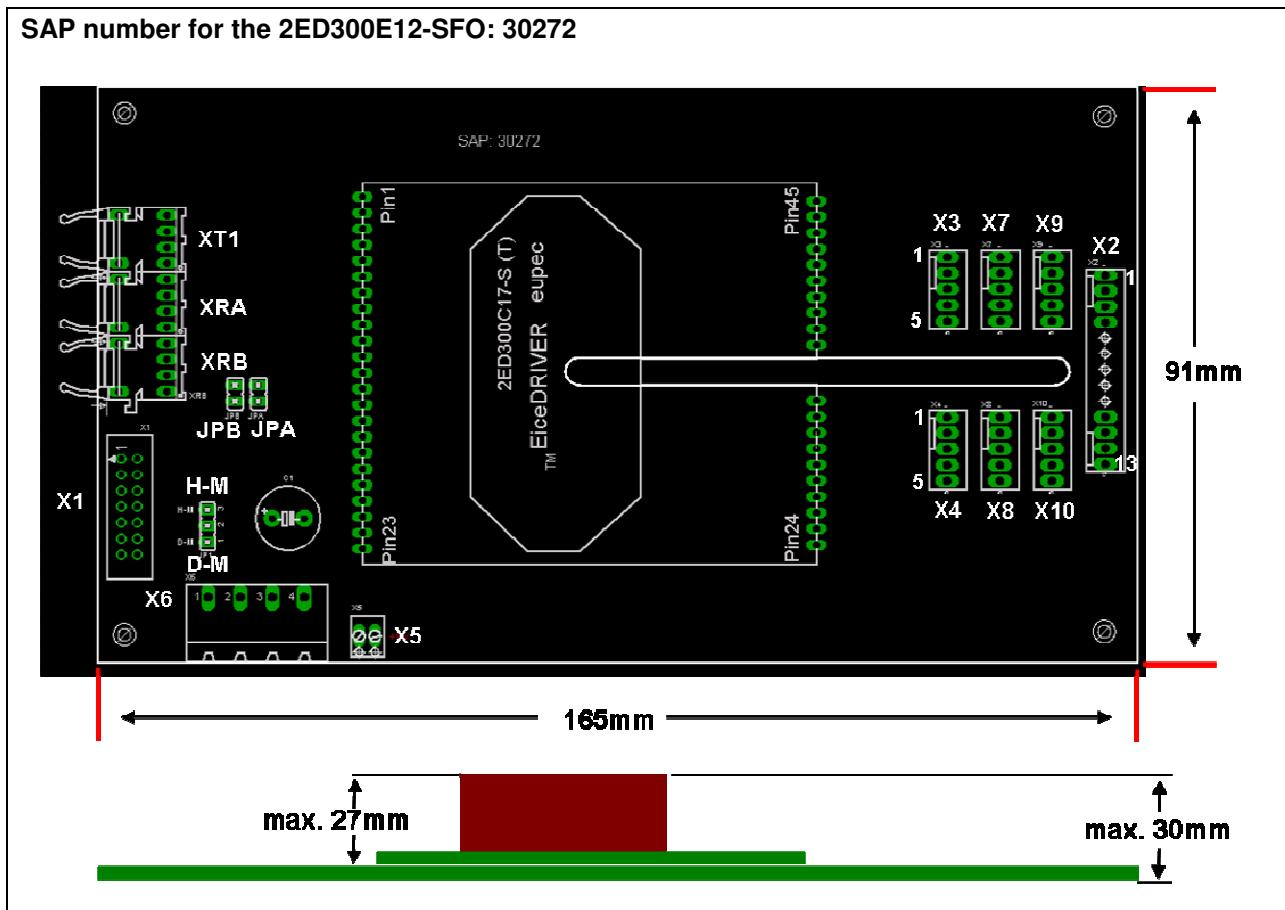

Figure 3 Dimensions of the 2ED300E17-SFO
The 2ED300E17-SFO outline assembled with driver is shown in Figure 3.
Electrical interface is simply activated by applying suitable signals¹ to appropriate pins in connector X1 as described in chapter 2.4, Table 4 and Table 5. Jumpers JPA and JPB visible on Figure 3 in that mode must be open.
When IGBT is driven using optical interface the fiber optic cables should be connected to receiver XRA in order to drive channel A and respectively XRB to drive channel B. Jumpers JPA and JPB in that case must be closed (Figure 3). No electrical signals except power supply connected to X1 are needed. Other connections should be removed. Keeping power supply connected to X5 or X6 and leaving X1 completely unconnected seems to be the easiest solution.
- Direct mode – means that both channels A and B are working accordingly to PWM signals. It is possible to switch on both channels A and B at the same time. This operation mode can be activated by setting the JP1 jumper on position marked as D-M (shorting pins 1 and 2 on Figure 3). When jumper JP1 is used there is no need to short X1.12 to GND of power supply
- Half-bridge mode is especially usefull when IGBTs are driven in half bridge configuration. By proper selection of capacitor values C4 and C5 the required dead time between channels A and B can be provided. This operation mode can be activated by setting the JP1 jumper on position marked as H-M (shorting pins 2 and 3 on Figure 3). When jumper JP1 is used there is no need to short X1.12 to V_{DC} . Table 8 shows how dead time depends on these capacitors value. The dead time with not connected capacitors is 1,6μs.